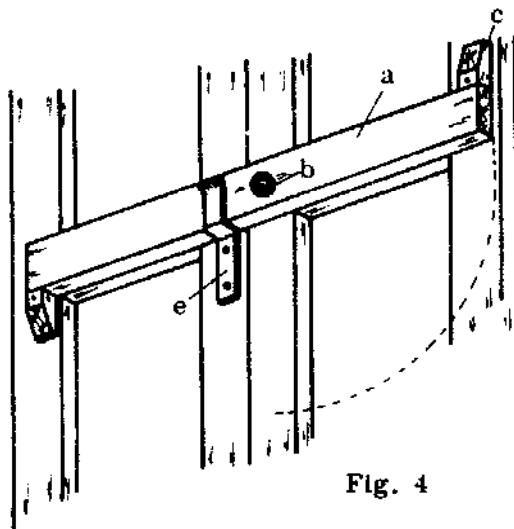
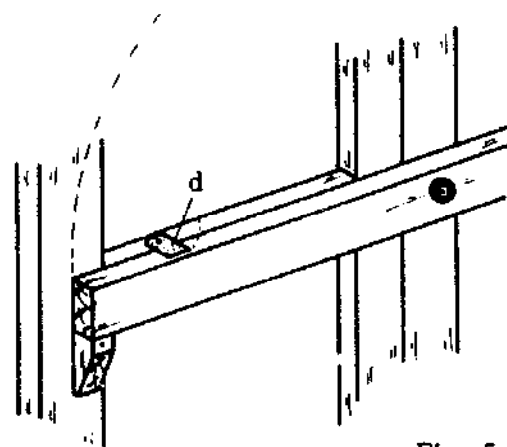

Fig. 4
Fig. 5
- **LOCKING DEVICE FOR LARGE DOORS:** The drawings below show a locking device used for large doors on stores etc, where trucks or other vehicles may have to enter to deliver goods (Fig. 4). It consists mainly of a long baulk (a) which can hold the two doors securely shut. The baulk is fixed with a coach bolt (b) onto one of the doors.
Two wooden blocks (c) hold the baulk in position when the doors are closed and a catch (d) prevents the baulk from swinging open by its own weight or from a gust of wind (Fig. 5). A piece of flat iron (e) bent as shown in Fig. 4, keeps the baulk in the locked position. This iron should be firmly attached to the door.